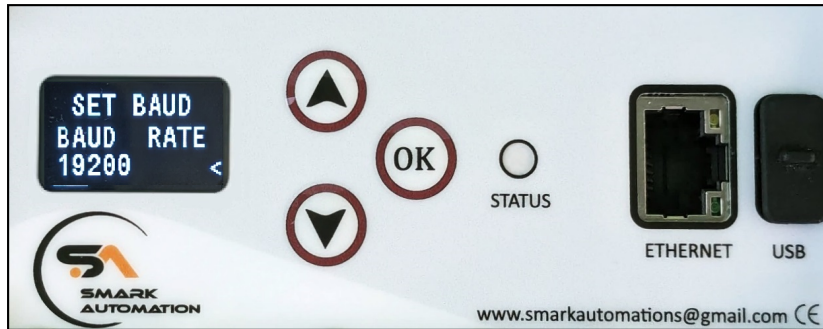

Figure 27: Configuring Baud Rate for EXT Device
2. **Set Scan Time (ms):** Set the Extension Device Scan Interval, which determines how frequently the main device i.e. SMDAS will check for updates or collect data from connected Extension Devices. The interval can be set between 1000 milliseconds (1 second) and 10000 milliseconds (10 seconds), with the default setting being 5000 milliseconds (5 seconds). Press OK to set the selected scan time and the user will then be prompted to set the Baud rate, as shown in Fig 27.